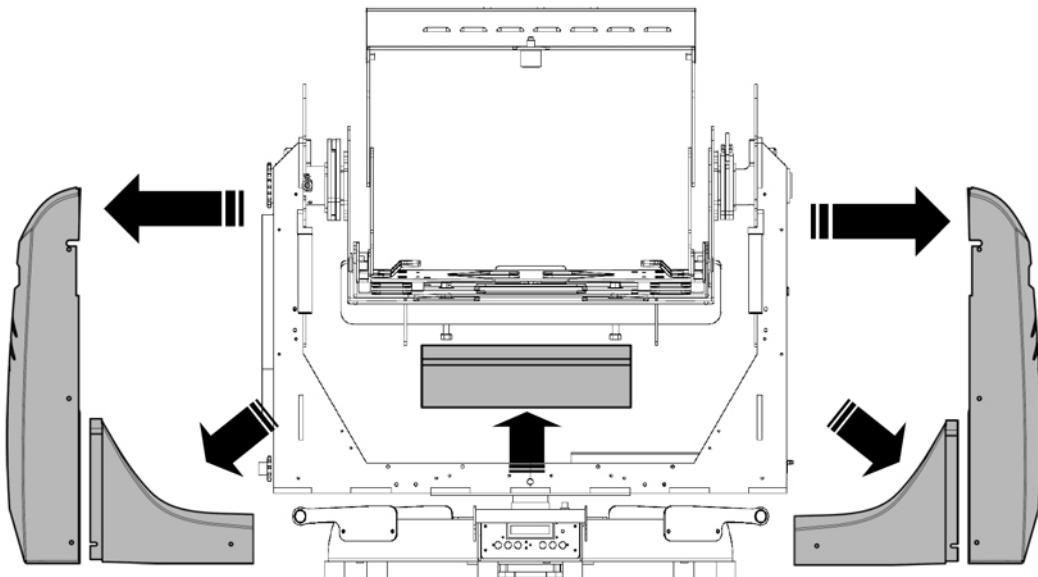
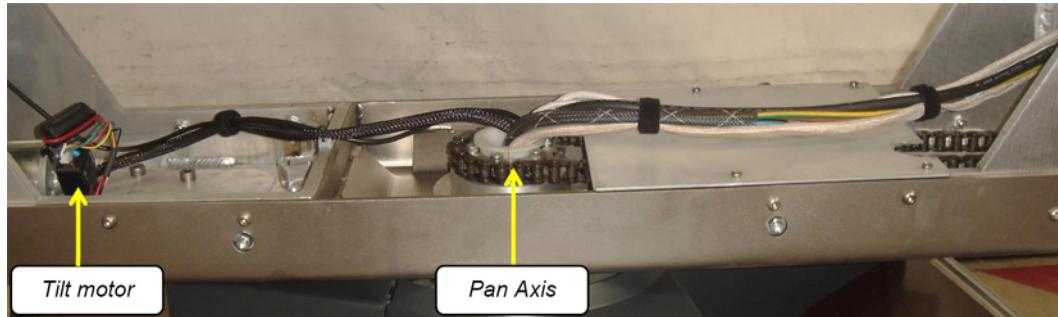

Figure 2-3 YK200 Dual Arm
Figure 2-6 Horizontal Components
2. Remove screws from the 3 horizontal covers shown in **Figure 2-3** to access the components in **Figure 2-6**.